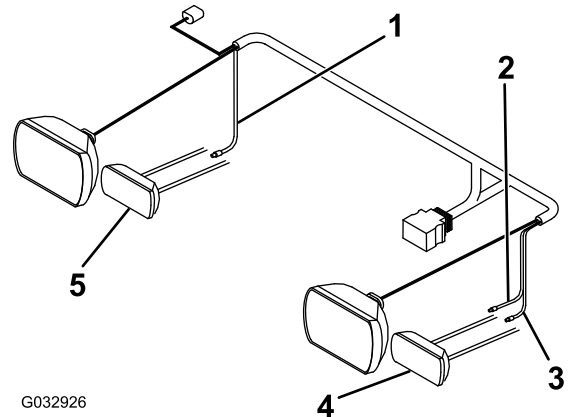

Figure 17
5. Connect the pink wire from the long wire harness to the right turn signal wire using a splice connector (Figure 17).
6. Connect the violet wire from the long wire harness to the left turn signal wire using a splice connector (Figure 17).
7. Connect the yellow wire from the long wire harness to the left park light wire using a splice connector (Figure 17).